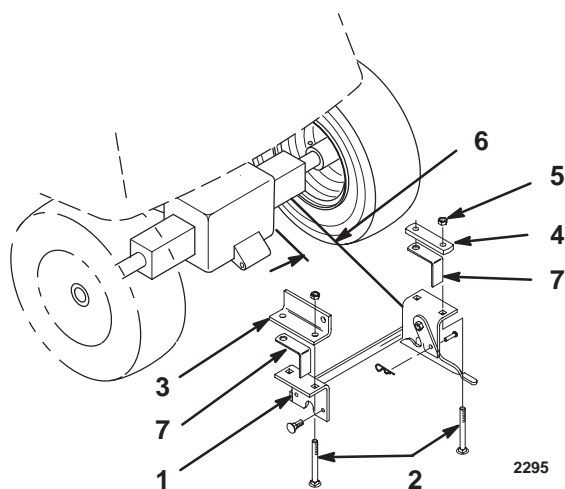

Figure 13
1. Center hitch on axle housing and install with 4 carriage bolts (3/8 x 3 inch), left side angle plate (with hole rearward), right side strap and lock nut (3/8 inch) as shown in figure 13.